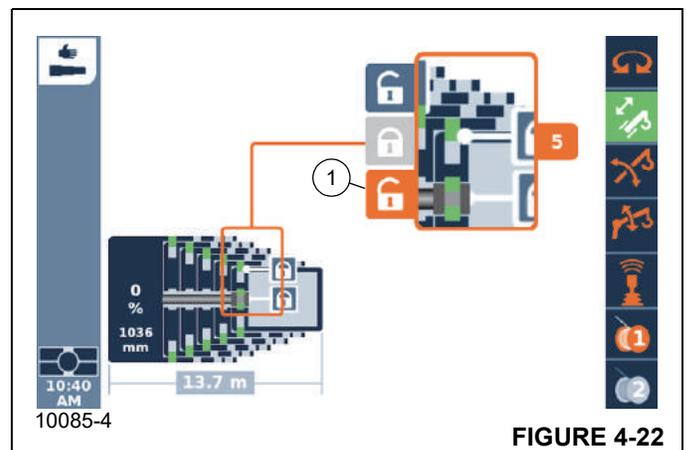

FIGURE 4-22
1. Select the symbol (1, Figure 4-22).